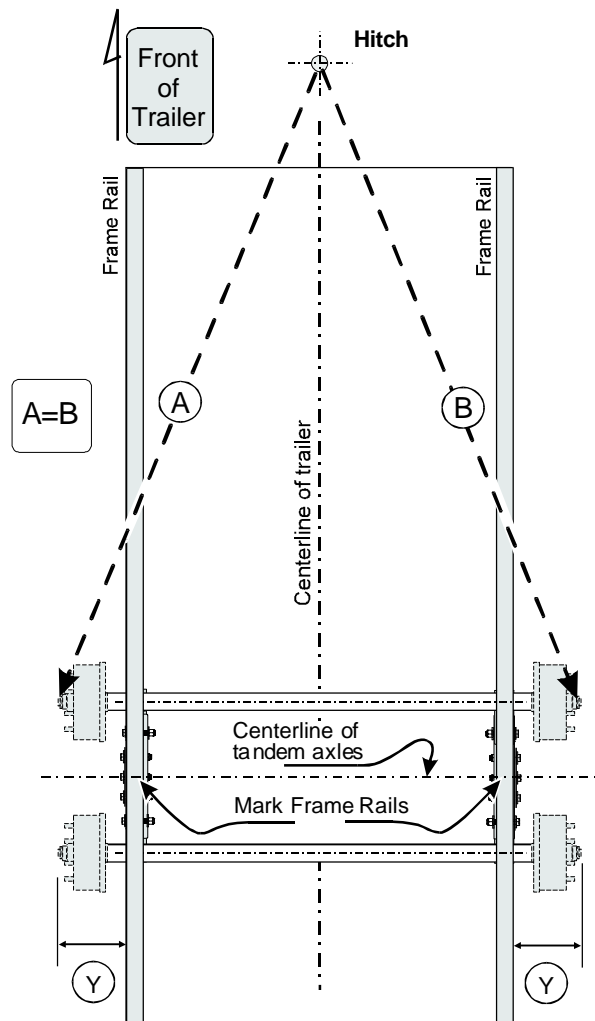

Fig. 2 Axle Alignment (View from the top)
1. Mark frame rails where center of tandem (centerline of tandem axles) should cross frame (fig. 2).
5. To align axle, measure and compare distances "A" and "B" (fig 2) and make sure that the error (the difference between "A" and "B") is no more than 1/8". If the error is greater than 1/8" reposition hangers and recheck.